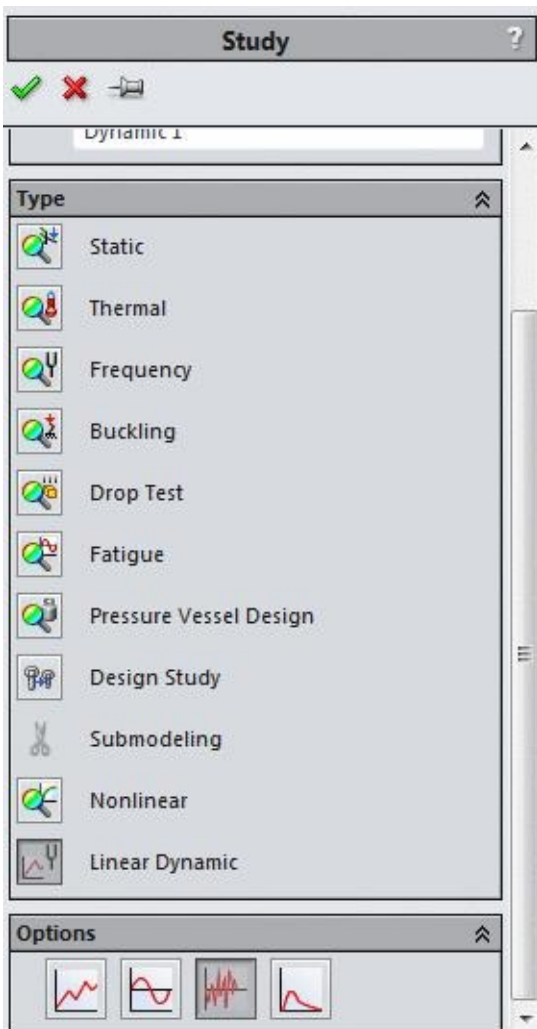

Figure-2. Study PropertyManager
- Click on the **Linear Dynamic** button and then on the **Random Vibration Analysis** button from the **Options** rollout; refer to Figure-2.